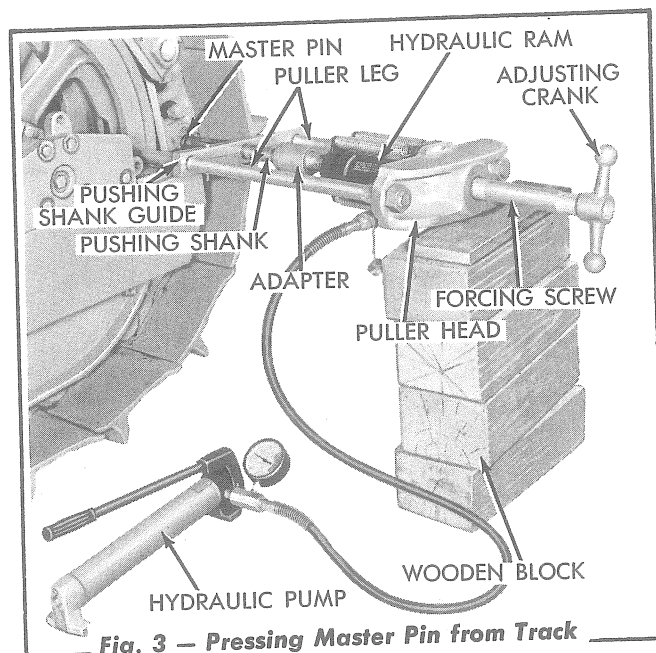

Fig. 3 — Pressing Master Pin from Track
c. Using special tools similar to the ones shown in Figs. 3 and 4, remove the master pin from the track as follows:
- (1) Install each puller leg in position in the puller head and secure with nuts.
- (2) Install the puller head with one leg through the track idler and one leg to the outside of the track as shown in Fig. 3.
- (3) Insert the puller base aligning bushing into the end of the puller base. Attach the puller base to the inner end of the puller legs with two nuts, making certain the aligning bushing is centered around the inside end of the master pin.
- (4) Attach the hydraulic ram to the puller head with the two attaching capscrews. Turn the forcing screw into position in the puller head and hydraulic ram.
- (5) Turn the pushing shank adapter onto the inner end of the forcing screw and turn the pushing shank into position in the adapter.
- (6) Install the pushing shank guide as shown in Fig. 3 to align the pushing shank with the track master pin.
- (7) Using the adjusting crank, turn the forcing screw in until the pushing shank contacts the end of the master pin. Support the outer end of the press assembly on blocks as shown in Fig. 3.
- (8) Connect the hydraulic pump to the hydraulic ram and actuate the pump handle until the ram has extended its full length, then remove the pushing shank guide. Slowly release the pressure from the hydraulic pump and at the same time, turn the adjusting crank to move the forcing screw forward until the pistons are fully retracted into the ram cylinders. Close the actuating valve on the hydraulic pump and continue the above operation until the master pin is pressed out of the track rail assembly. Remove the press assembly.